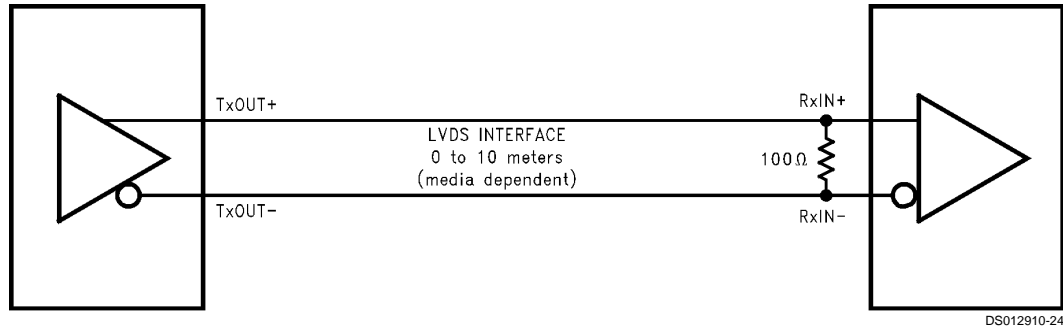

FIGURE 19. LVDS Serialized Link Termination
**TERMINATION:** Use of current mode drivers requires a terminating resistor across the receiver inputs. The CHANNEL LINK chipset will normally require a single 100 $\Omega$  resistor between the true and complement lines on each differential pair of the receiver input. The actual value of the termination resistor should be selected to match the differential mode characteristic impedance (90 $\Omega$  to 120 $\Omega$  typical) of the cable. *Figure 19* shows an example. No additional pull-up or pull-down resistors are necessary as with some other differential